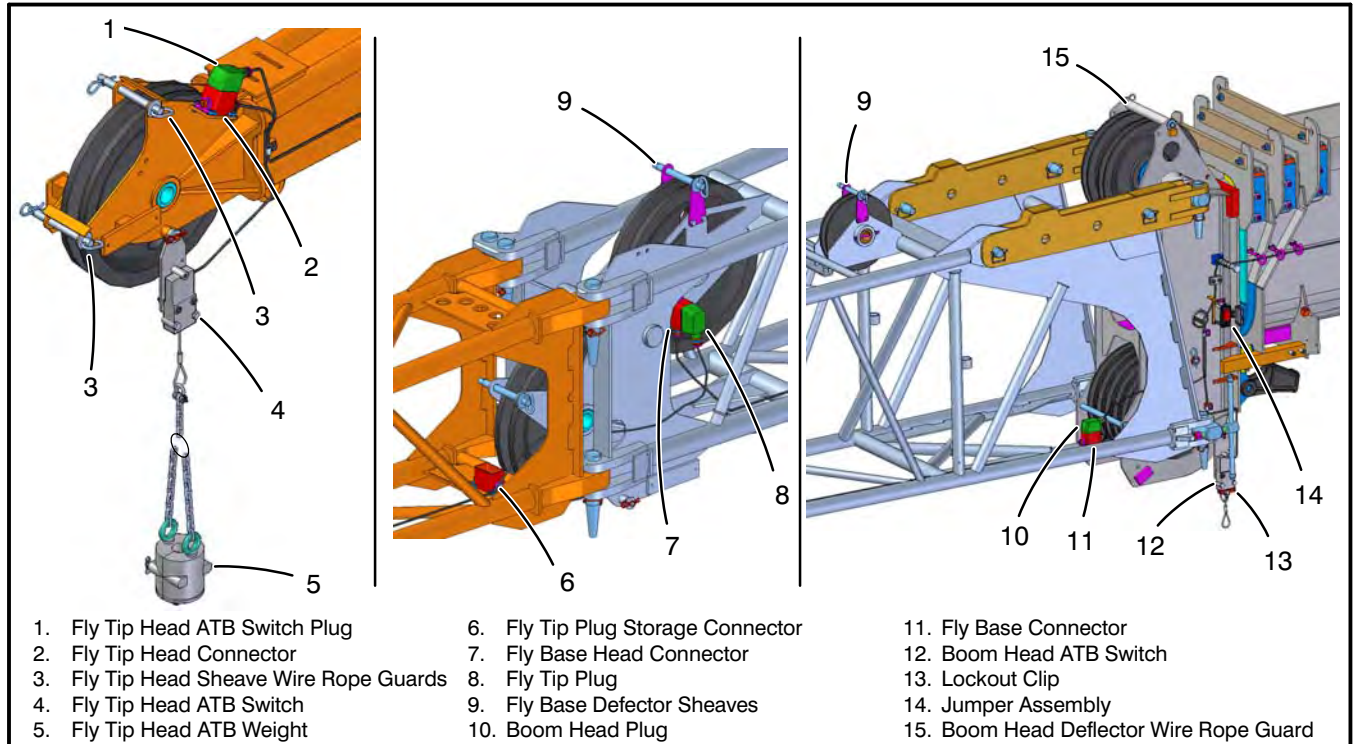

Figure 4-49
21. Remove the wire rope guards from the fly base and boom head deflector sheaves. Refer to Figure 4-49. Reeve the winch wire rope over the boom deflector sheave, then on the fly base deflector sheave.